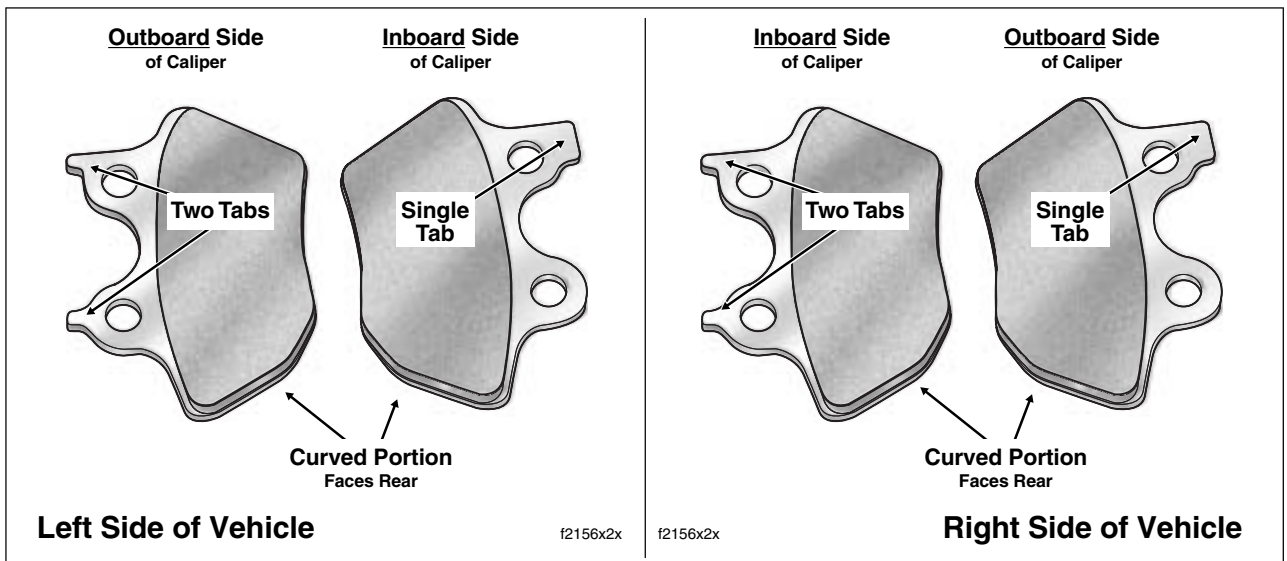

Figure 2-56. Front Brake Pad Locations
1. Install **new** brake pads into caliper with the friction material facing the brake disc opening. Be sure that the pad is oriented so that the curved side faces the rear of the vehicle when the caliper is installed. See Figure 2-56.
7. Install **new** brake pads into caliper with the friction material facing the brake disc opening. Also, be sure that the pad is oriented so that the curved side faces the rear of the vehicle when the caliper is installed. See Figure 2-56.